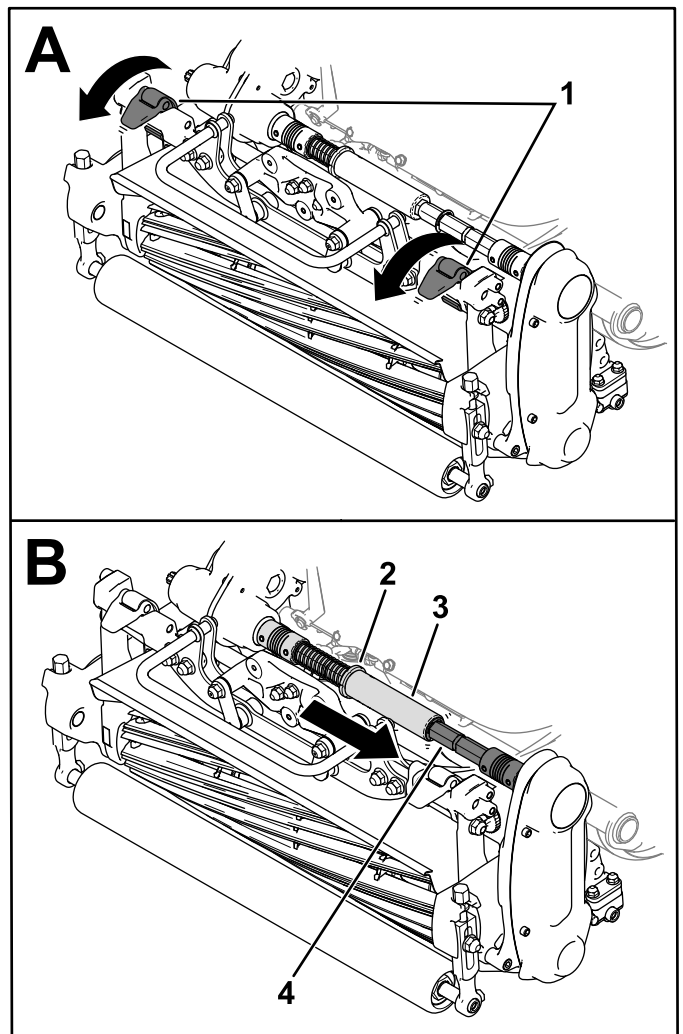

Figure 43
3. Move the suspension latches down to secure the cutting unit to the machine (Figure 43).
4. Move the collar out of the transmission-coupler-shaft groove and insert the hex tube into the cutting-unit coupler shaft (Figure 43).